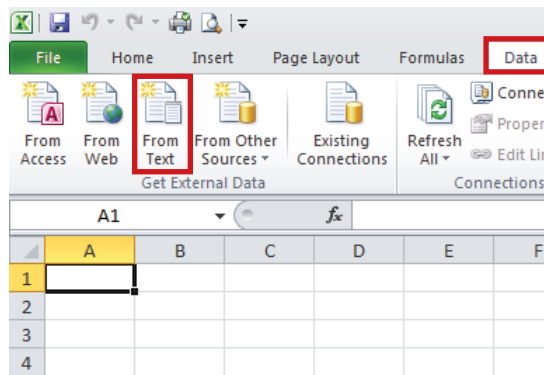

Figure 10
- Select "FROM TEXT" (Figure 10)